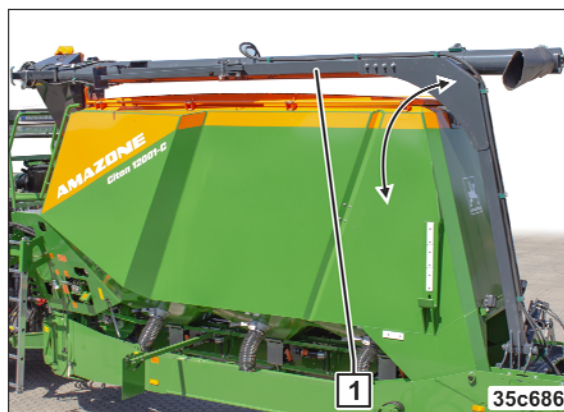

Fig. 212
1. Move the filling auger (Fig. 212/1) into working position.